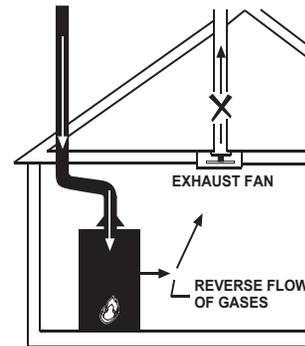

FIGURE 3
- Do not locate the water heater near an air-moving device. The operation of air-moving devices such as exhaust fans, ventilation systems, clothes dryers, fireplaces, etc., can affect the proper operation of the water heater. Special attention must be given to conditions these devices may create. Flow reversal of flue gases may cause an increase of carbon monoxide inside of the dwelling (Figure 3).